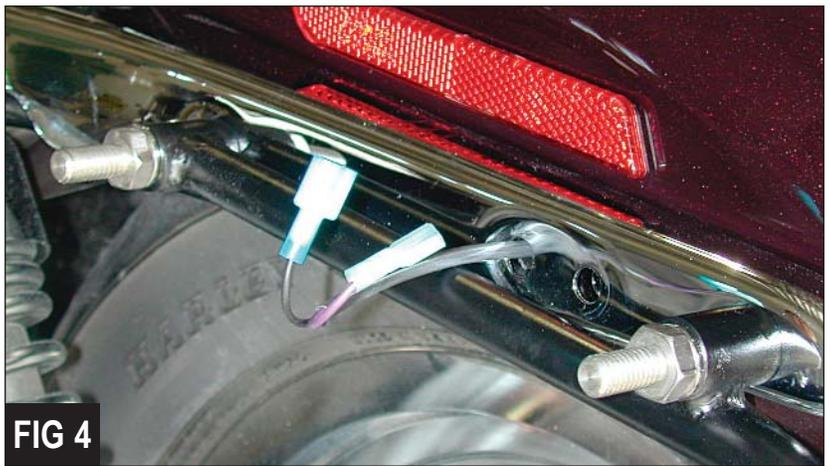

FIG 4
9. Peel off approximately 2" of shrink tubing to reveal both wires. Then strip off approximately 3/4" of the wire sleeve off of each wire. Crimp the supplied male connector onto the purple wire and the female connector onto the black wire. (Figure 4)